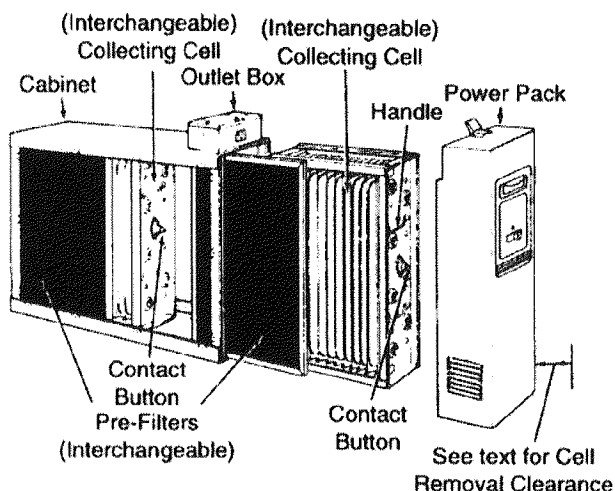
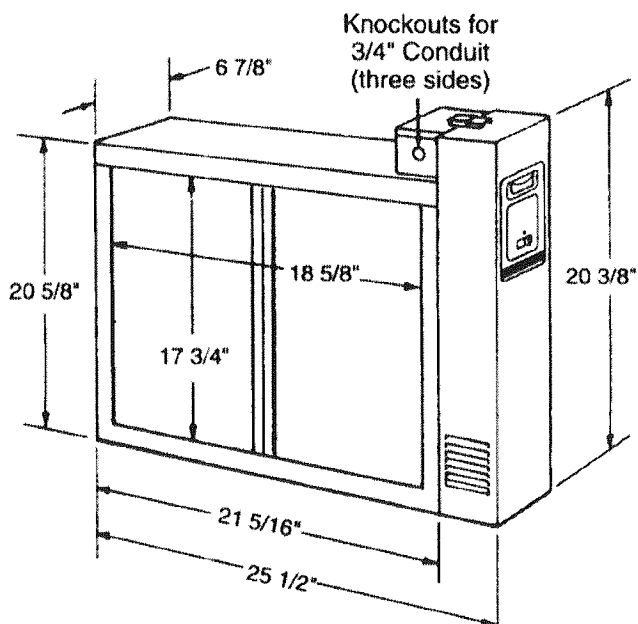

Figure 4
Figure 5
2. Allow a clearance of 14 inches to permit removal of cells and pre-filters: (See Figures 4 and 5). For complete dimension data refer to Figure 5.
Your air cleaner is shipped from the factory with air flow from left-to-right. If this air flow is suitable for the installation, no further changes need to be made (Figure 4). For right-to-left air flow, remove both pre-filter and cell sections. Turn cells upside down (with the same end facing the cabinet opening). This will locate the ionizing wires at the right, and both contact buttons and cell handles will be
1. Place the air filter cleaner on the floor. Stand it upright with the power door facing you (Figure 4). If a horizontal installation is being planned, lay the cleaner on its side, this will help you to visualize the relative location of all parts.